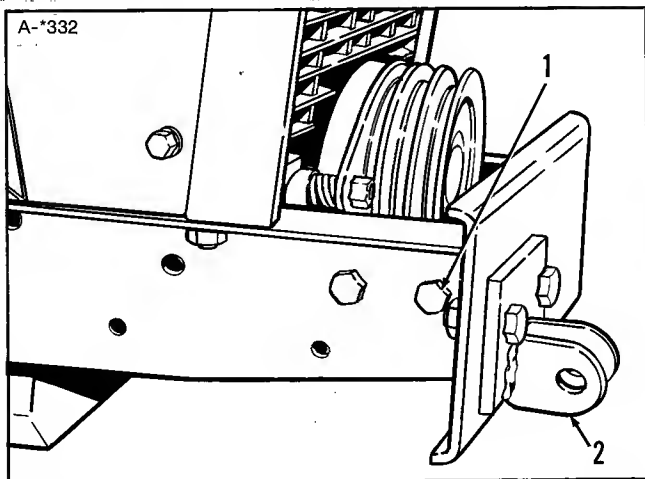

Figure 1.
1. Remove the front screw (1, figure 1) from each side of the electric clutch if electric clutch is installed.